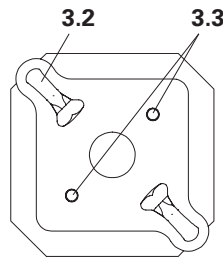

Fig. A2.19a
1. Place MULTIPROP MP (1) on Base MP 50 (3).
2. Centring pins (3.3) engage with the drilled holes of the base plate (1.8) or head plate (1.9) of the MULTIPROP MP (1). (Fig. A2.19a)